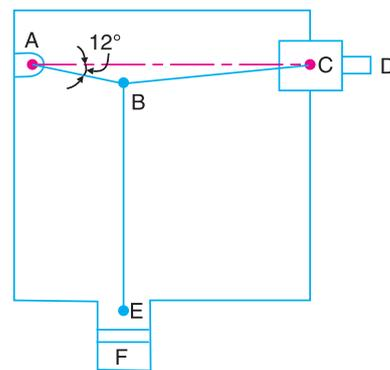

Fig. 7.42
12. A riveter, as shown in Fig. 7.42, is operated by a piston  $F$  acting through the links  $EB$ ,  $AB$  and  $BC$ . The ram  $D$  carries the tool. The piston moves in a line perpendicular to the line of motion of  $D$ . The length of link  $BC$  is twice the length of link  $AB$ . In the position shown,  $AB$  makes an angle of  $12^\circ$  with  $AC$  and  $BE$  is at right angle to  $AC$ . Find the velocity ratio of  $E$  to  $D$ . If, in the same position, the total load on the piston is 2.2 kN, find the thrust exerted by  $D$  when the efficiency of the mechanism is 72 per cent,